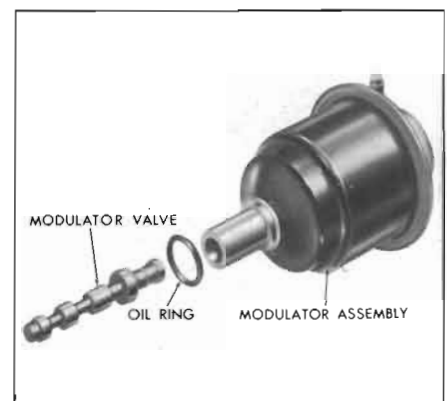

Figure 74-730
1. Inspect the modulator assembly for any signs of bending or distortion. See Figure 74-730.